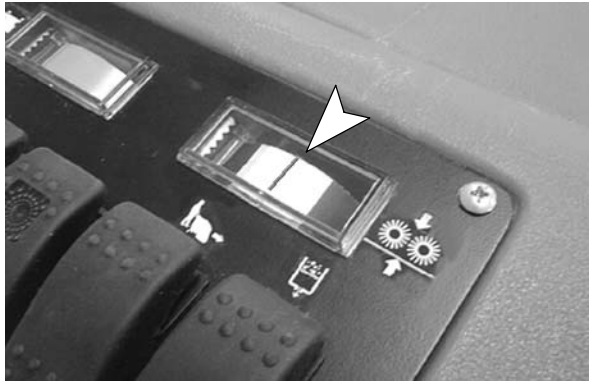

FIG. 22
1. For optimum cleaning results, adjust brush height so brush pressure meter reads in the center of green zone (Figure 22).